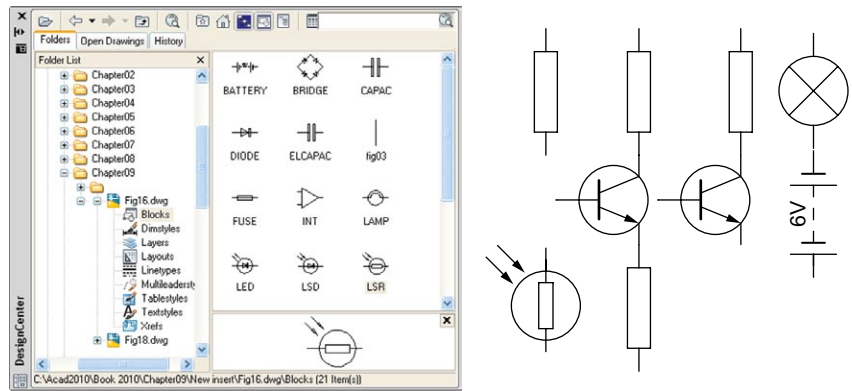

Fig. 9.17 Example using the DesignCenter
4. From the **Folder list** select the file Fig16.dwg and *click* on **Blocks** under its file name. Then *drag* symbol icons from the **DesignCenter** into the drawing area as shown in Fig. 9.17. Ensure they are placed in appropriate positions in relation to each other to form a circuit. If necessary either **Move** or **Rotate** the symbols into correct positions.
7. Construct drawings of the electric/electronics symbols in Fig. 9.17 and save them as blocks in a drawing file electronics.dwg.
2. Construct drawings of the electric/electronics symbols in Fig. 9.17 (page 186) and save them in a drawing file **electronics.dwg**.